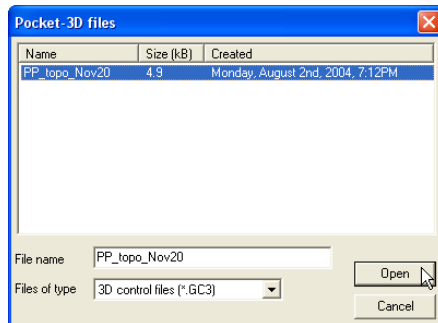

Figure 2-7. Select File and Click Open
2. On the *Pocket-3D files* dialog box, select the file type (*.GC3) and the desired file, then click **Open** (Figure 2-7).